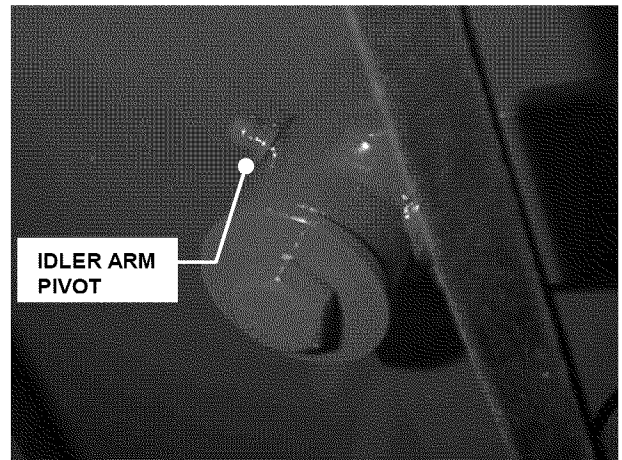

FIGURE 3.11
4. Transmission belt idler arm pivot, 1-3 shots. See Figure 3.11.